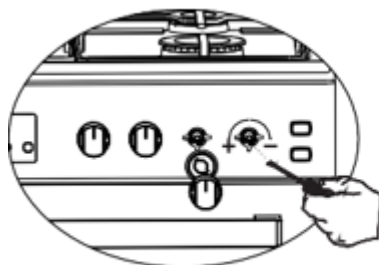

Figure 6
5. For the last control, bring the burner both to higt-flame and reduced positions and check whether the flame is on or off. Depending on the type of gas tap used in your appliance the adjustment screw position may vary. To adjust your oven acc. To the gas type, make the adjustment for reduced flame carefully by turning with a small screwdriver as shown below on the screw in the middle of the gas coks as well as nozzle changes (figure 6 and 7).